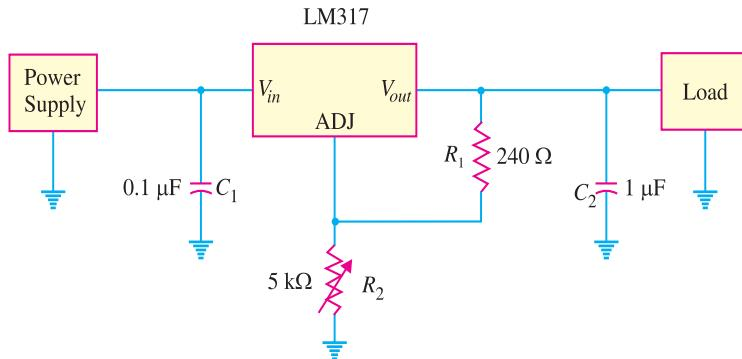

Fig. 17.30
**Example 17.20.** In Fig. 17.30,  $R_2$  is adjusted to  $2.4\text{ k}\Omega$ . Determine the regulated d.c. output voltage for the circuit.